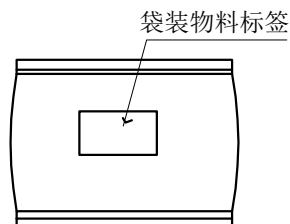

图2
- 1: As shown in Figure 2, the material label is affixed after the bag is loaded. Each small bag contains 1000pcs.